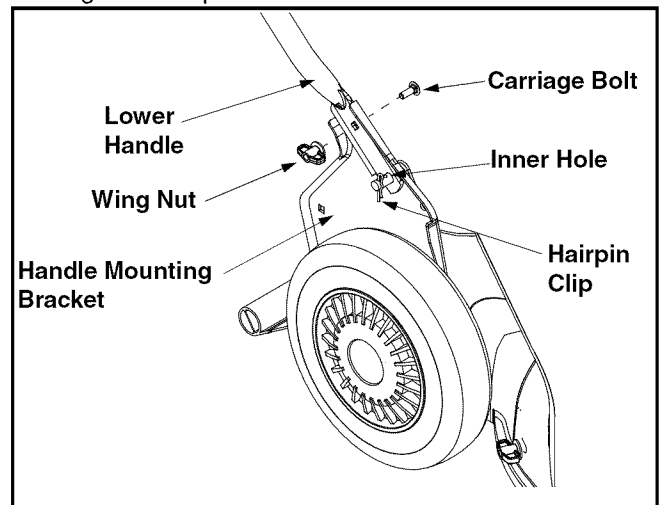

Figure 3
- Remove hairpin clip from the outer hole of the weld pin on each handle brackets. Using a pair of pliers, squeeze one leg of the lower handle against the handle bracket. Insert the hairpin clip into the inner hole on the weld pin. Repeat on the other side. See Figure 3.
- After moving the hairpin clip, insert the carriage bolt, from the hardware pack, in the upper hole on the handle mounting bracket and secure with plastic wing nut, also from the hardware pack. See Figure 3. Repeat on the other side.